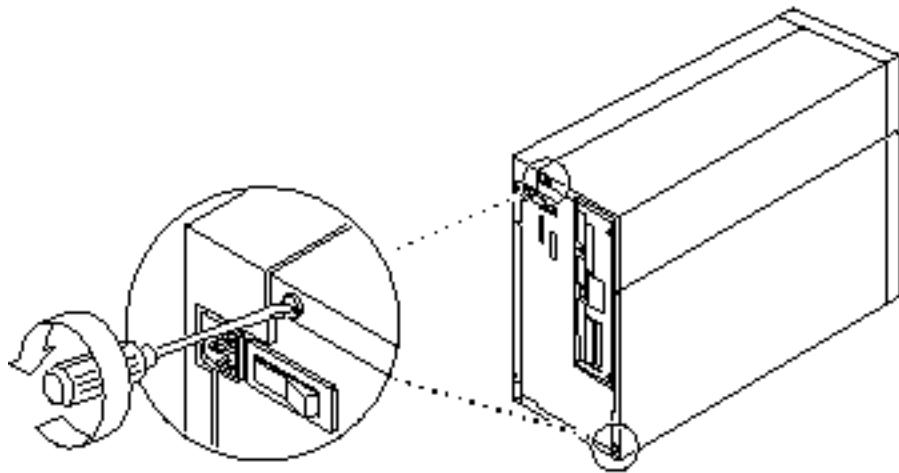

Figure 2–3 Locating the Captive Screws for the Left Outer Panel
2. **Slide the left outer panel toward the rear of the Netra 150 server until it stops, then tilt the panel out until it is clear of the chassis (Figure 2–4).**